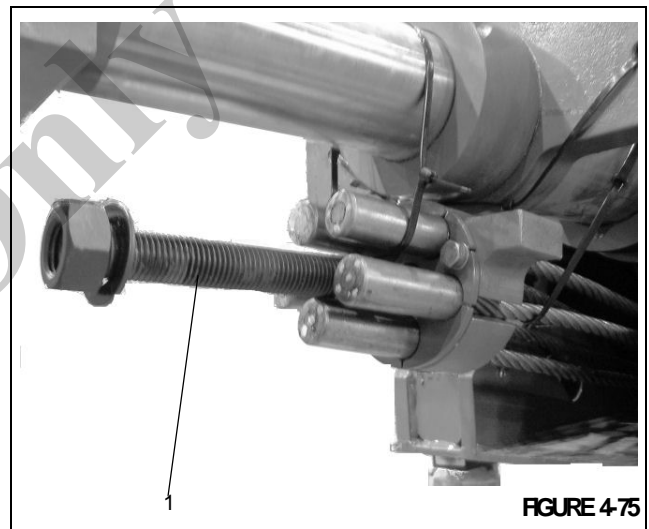

FIGURE 4-75
25. Check to make sure the long cable installation bolt (Figure 4-75, 1) is installed in the extend cable anchor assembly.